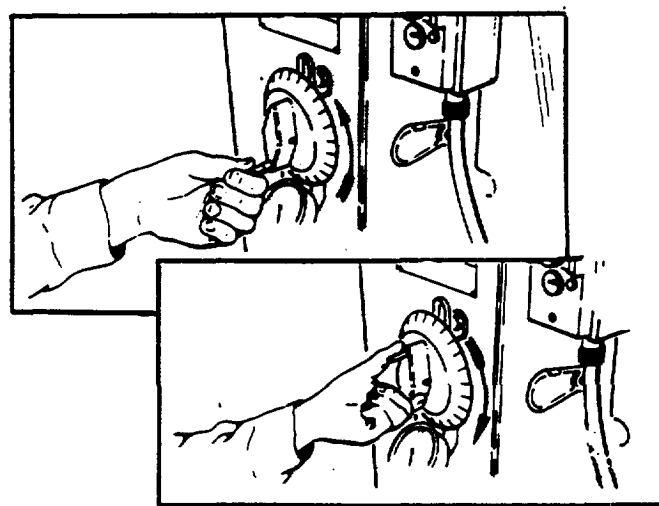

FIGURE 29
- (1) Back off feed dial (counterclockwise) all the way, then advance it clockwise about turns. (Figure 29).
- (2) With stone in mandrel, pull wedge out as far as possible with wrench provided.
- (3) Install eccentric spindle sleeve if required.